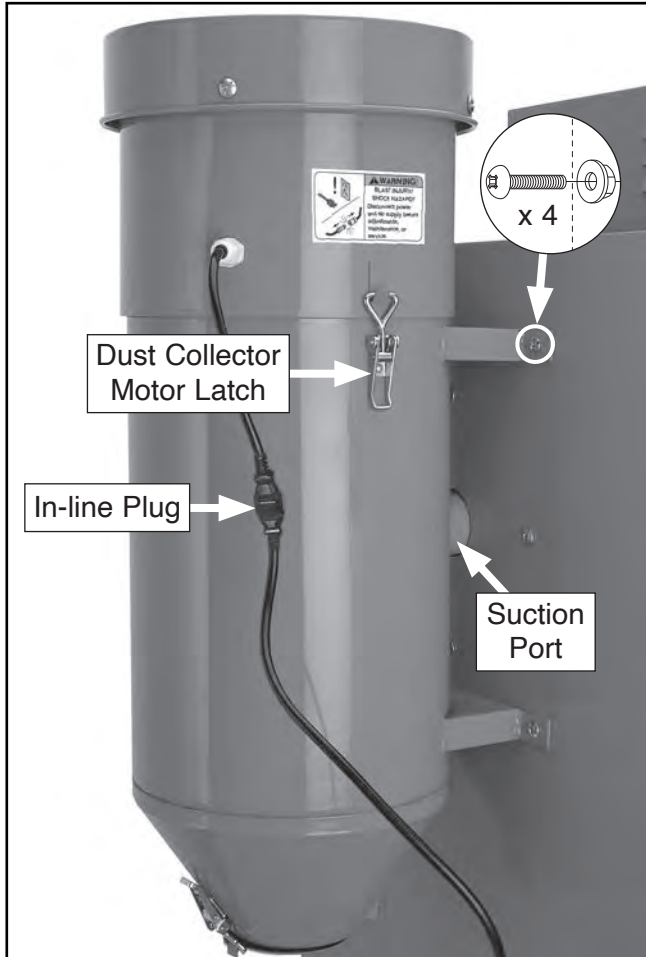

Figure 9. Dust collector.
6. Using (4) M6-1 x 12 cabinet screws and flange nuts, fasten dust collector to rear of cabinet, so suction port protrudes through hole cut into back of cabinet (see **Figure 9**).
7. Plug dust collector in to in-line power supply plug protruding from control box (see **Figure 9**).
- Unlatch dust collector motor (see **Figure 9**), lift dust collector out of canister, and set it aside.